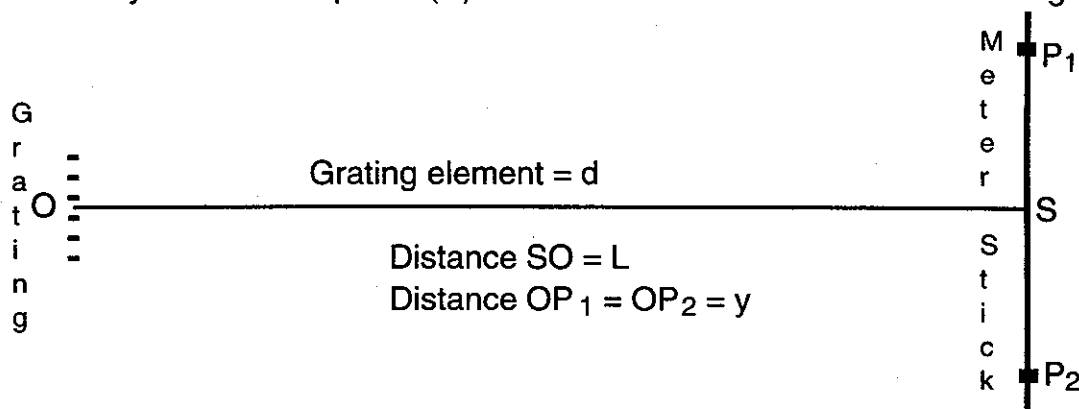

Fig. 14.2
- (a) Fix a meter stick in the horizontal position and set a discharge tube vertically at the midpoint (S) of the meter stick as shown in Fig. 14.2.